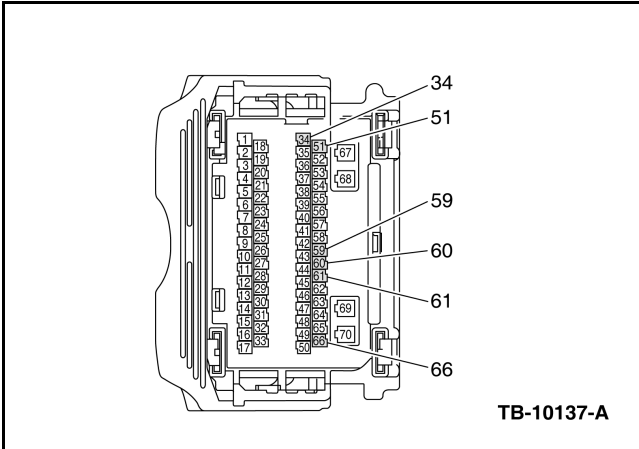
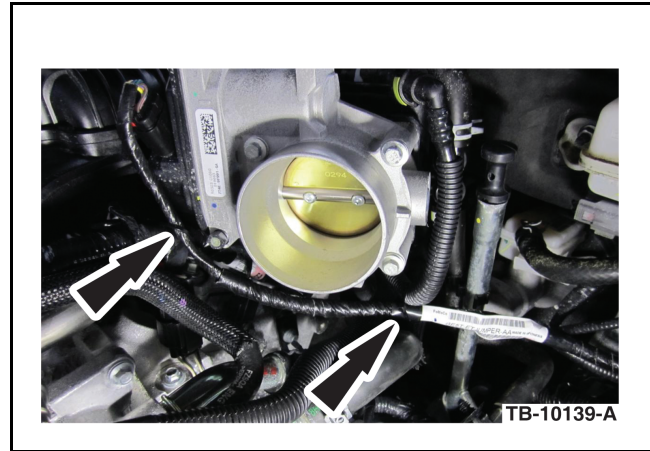

Figure 4 - Article 11-4-23
Figure 6 - Article 11-4-23
- a. Remove one (1) vehicle harness terminal and replace with one (1) service harness terminal at a time.
9. Using a wire terminal release tool (OTC 7740 or similar), remove female terminal pin numbers 34, 51, 59, 60, 61 and 66 from C175E. (Figures 4 and 5)
10. Install wire terminals from service harness into the connector matching pin number and color. (Figure 4)
11. Cut terminals from removed wires and install one (1) piece of heat shrink to cover all six (6) wires. Fold wire bundle back and tape to vehicle wire harness.
17. Disconnect throttle body (TB) connector C1568.
19. Install one (1) piece of heat shrink to cover all six (6) wires. Fold wire bundle back and tape to vehicle wire harness.
20. Route service harness under TB and secure with tie straps. (Figure 6)